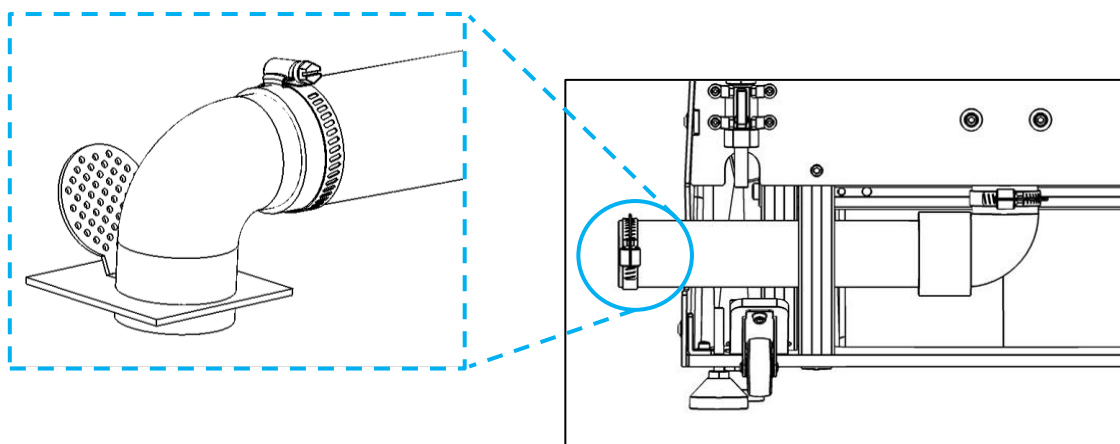

Fig. 1
1. Connect the hose to an elbow connector or pipe (1 ¼ "diameter) connected to the drain (Fig. 1).